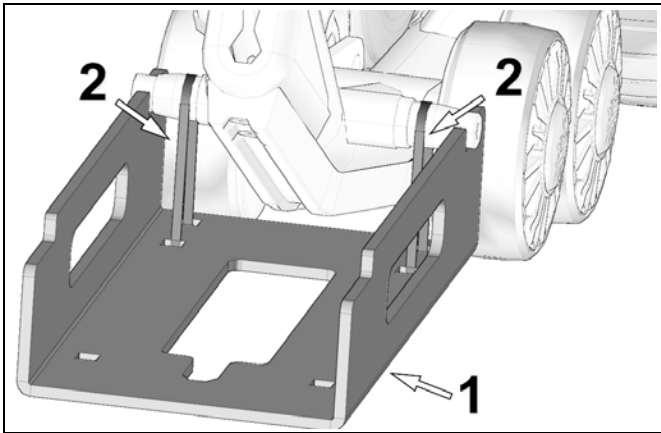

Figure 39
Use Camoplast alignment tool #2000-00-1999 (item 1 on Figure 39) to align tensioner by means of the following procedure:
Attach the alignment tool to wheel axle nearest to tensioner assembly using the provided tie wraps (2). Refer to Figure 39.